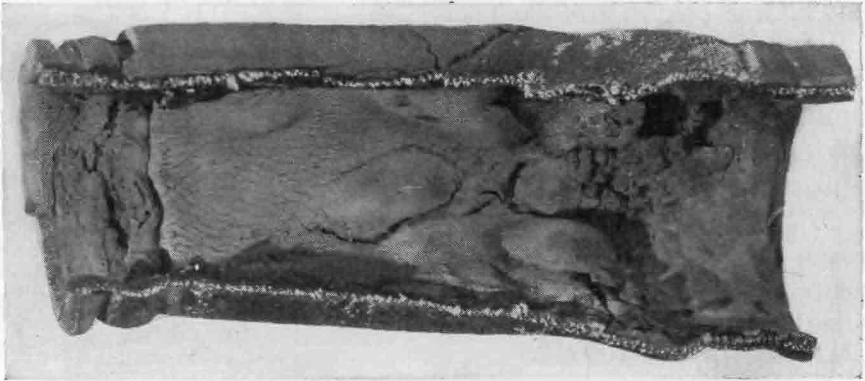

FIG. 14-3. Water hose that has become defective. (Federal-Mogul Corporation)
4. *Examining hose and hose connections.* The appearance of the hose and connections will usually indicate their condition. If the hose is rotted and soft and collapses easily when squeezed, it should be replaced. Figure 14-3 illustrates a badly deteriorated section of hose that has been split open to show the internal appearance.